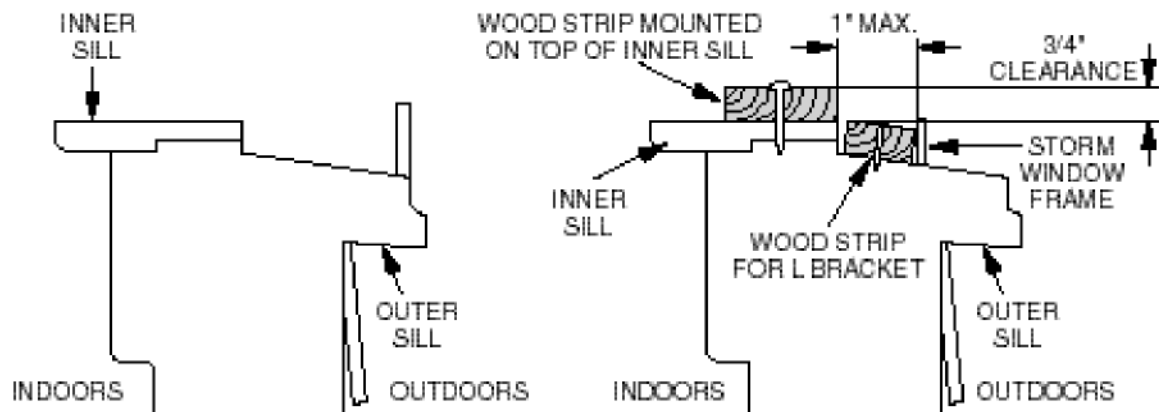

Figure 25
1. This unit is designed for installation in standard double-hung windows with actual opening widths of 22" to 36". The upper and lower sash must open sufficiently to allow a clear vertical opening of 14" from the bottom of the sash to the window stool. (Figure 25)
2. If storm window presents interference, fasten a 2" wide wood strip (OUTER SILL) to inner window sill across the full width of the sill wood strip should be thick enough to raise the height of the window sill so that the unit can be installed without interference by the storm window frame. See figure 25. Top of wood strip should be approximately 3/4" higher than storm window frame (STORM WINDOW FRAME) or wood strip (OUTDOORS) to help unit condensation to drain properly to the outside.
3. Install a second wood strip (approximately 6" long 1-1/2" wide and same thickness as first strip) in the center of the outer sill flush against the back off the inner sill. This will raise the L bracket as shown figure 25.